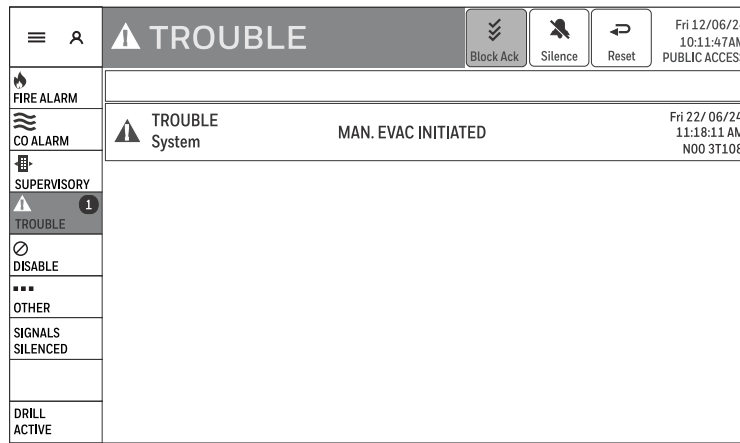

Figure 4-16: Trouble-Man Evac Initiated Screen
- Displays TROUBLE and "MAN. EVAC INITIATED" in the Events List. Shown in Figure 4-16: Trouble-Man Evac Initiated Screen